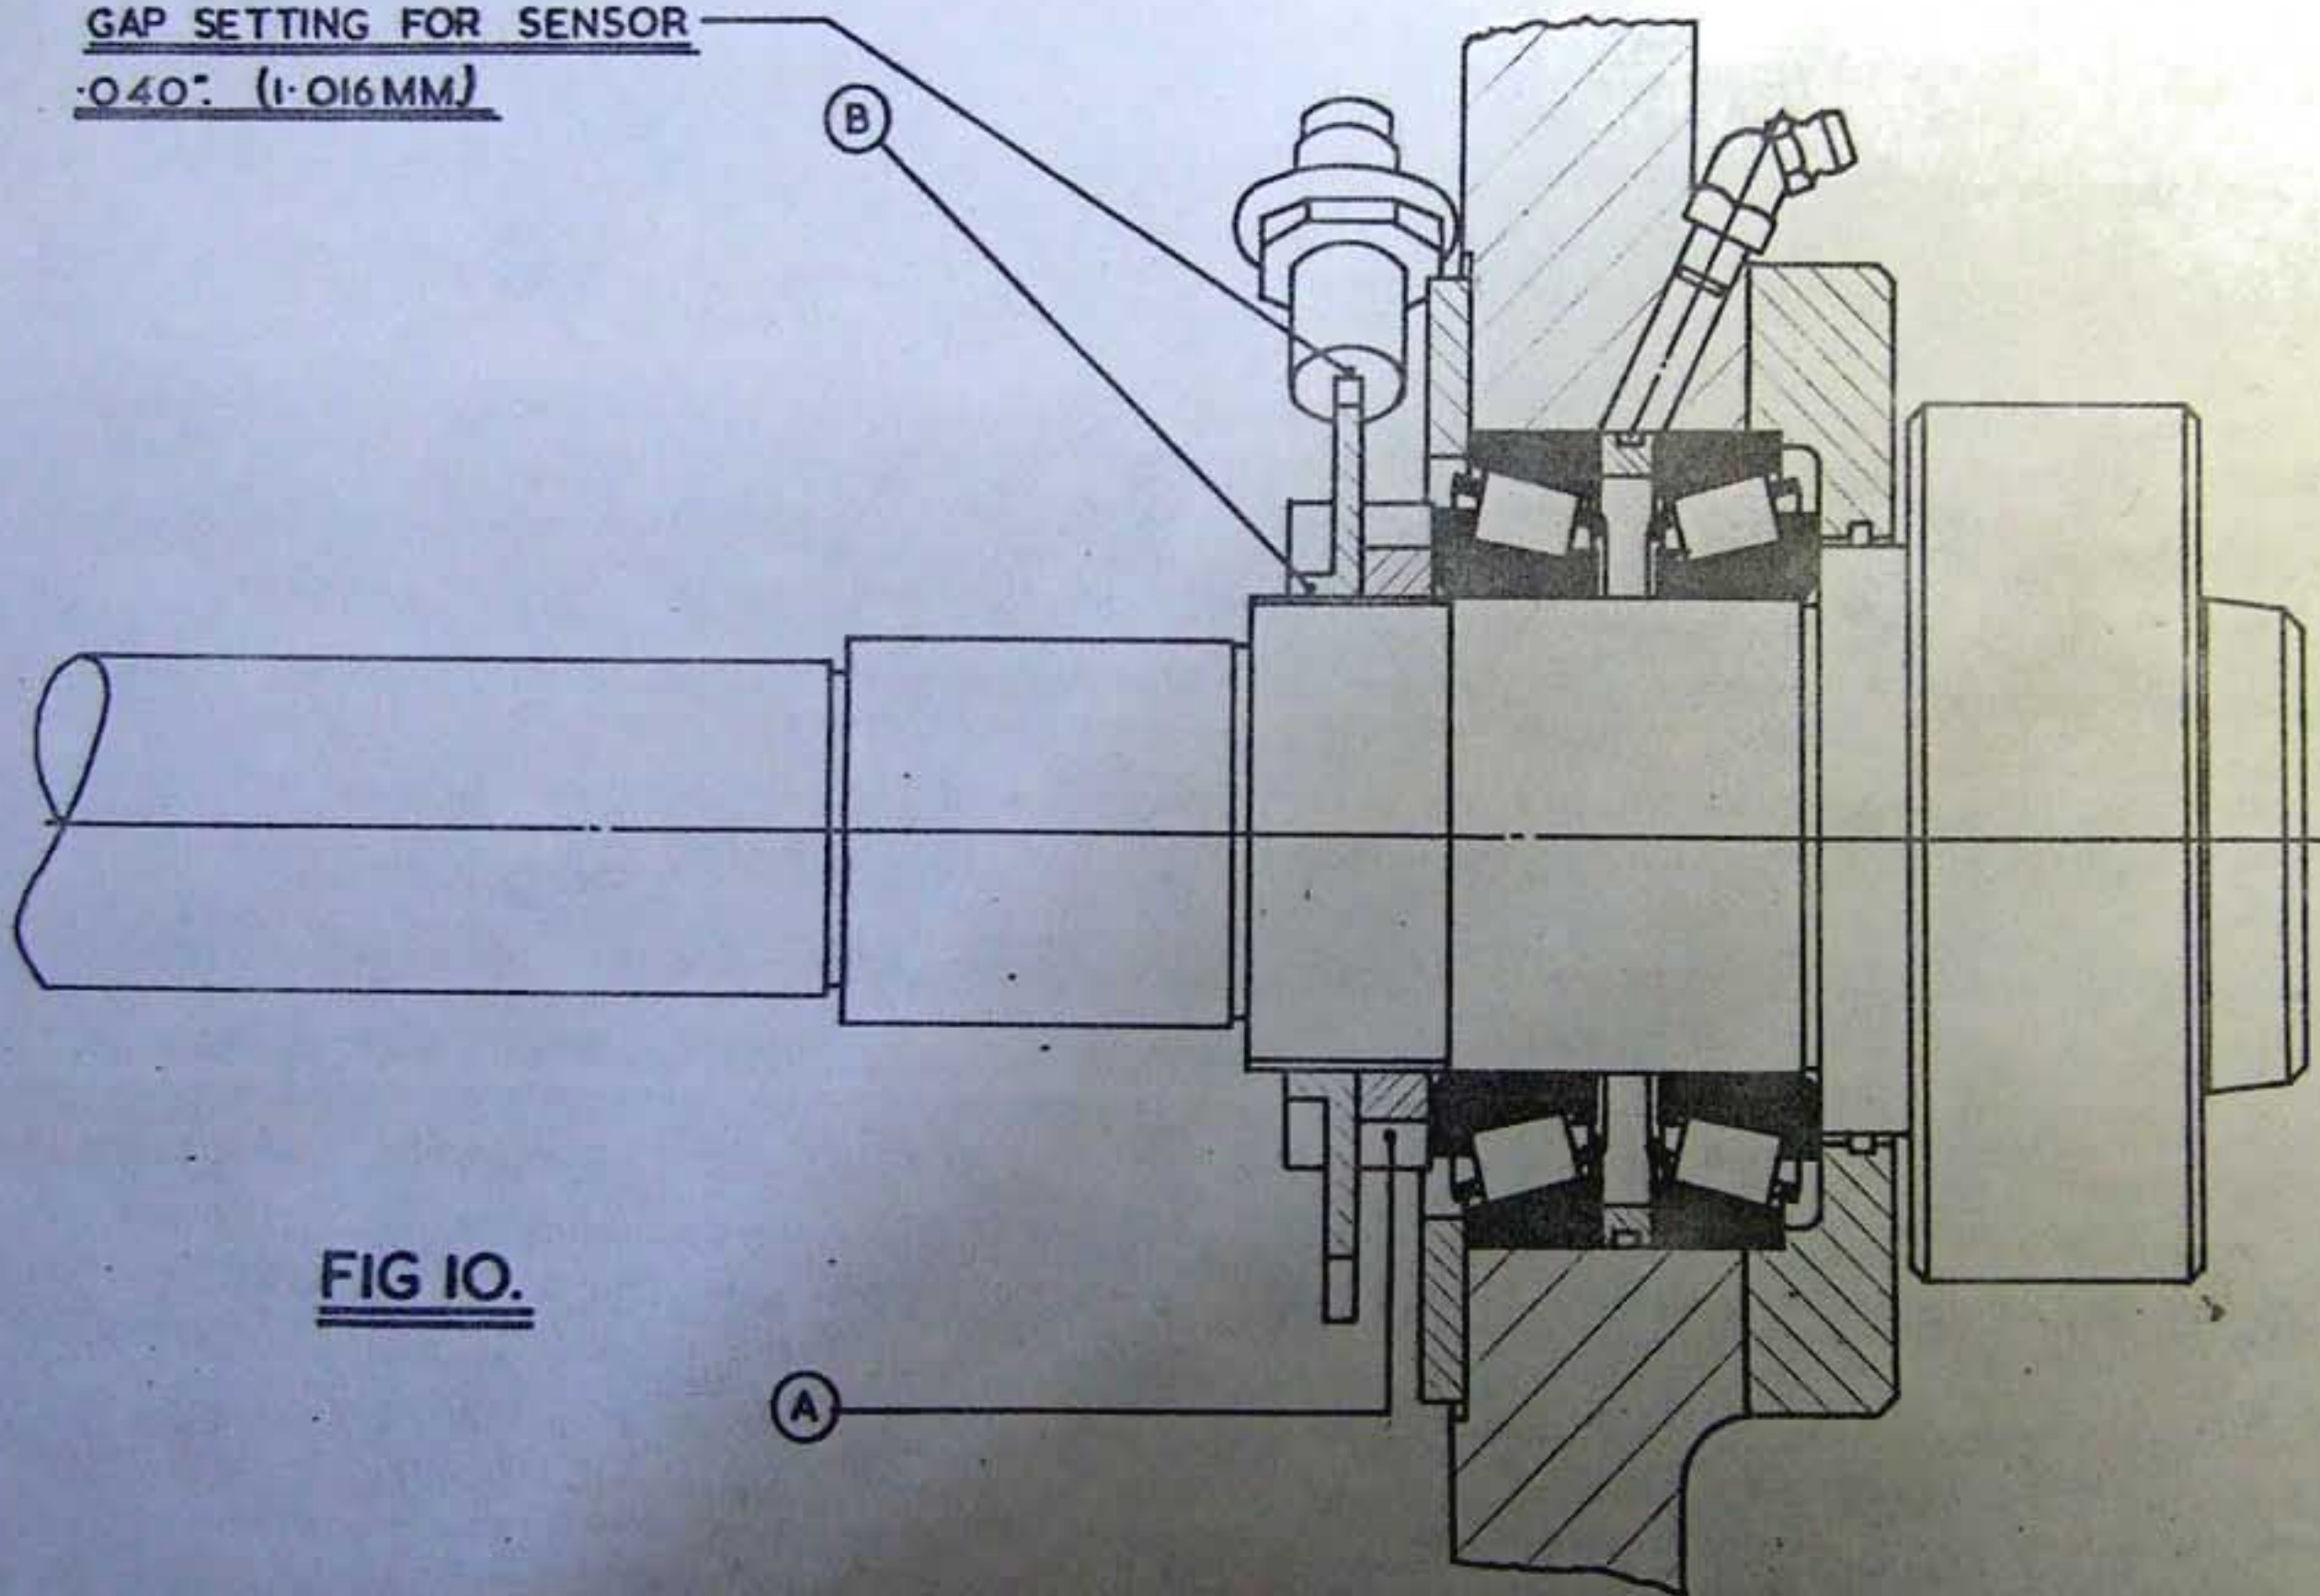

FIG 10.
The taper roller main bearings have been correctly adjusted and pre-loaded on assembly and should not require any attention provided the initial setting is not disturbed. To adjust the pre-load, slacken off the lock nut on the spindle (A) Fig.10 and adjust the pre-load by turning the transducer gear (B) in small increments.